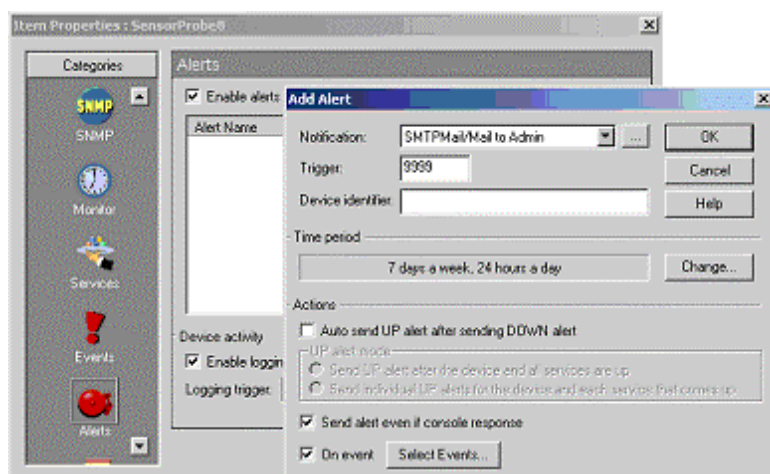

Figure 13 Add Alerts dialog box
5.3 Press Add button to open Add Alerts dialog box shown in Figure 13.